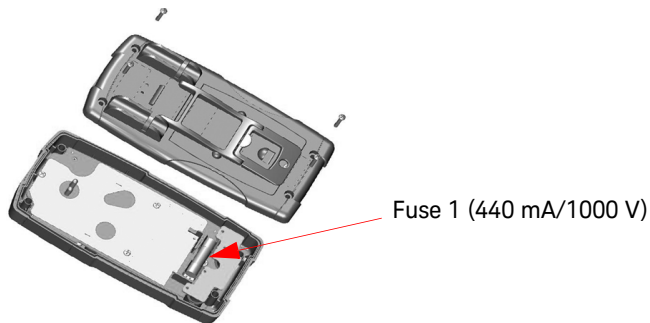

Figure 4-2 Fuse 1 replacement
- 3 Gently remove the defective Fuse 1 by prying one end of the fuse and removing it out of the fuse bracket, see Figure 4-2.